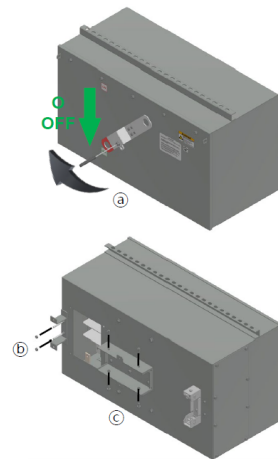

Figure 35. Bolt-on unit Pre-installation
2. Make sure that the operating handle on OFF (O) position. (Figure 35)
3. Make sure that the handle bolt-lock is locked. (Figure 35, a)
4. Remove two pair of the guide pins nuts. (Figure 35, b)
5. Remove four pair of the fixed bolts. (Figure 35, c)